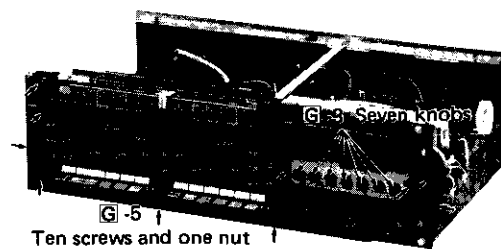

Figure 5-5
3. Pull out seven knobs (record level, tape fader, mic mixing, balance, bass, and treble controls). See Fig. 5-5.
5. Remove nine screws from the frame, one screw from the dial lamp PWB and one nut from the headphones jack. See Fig. 5-5.
6. Slide the frame in the arrow direction shown in Fig. 5-5 to remove it.